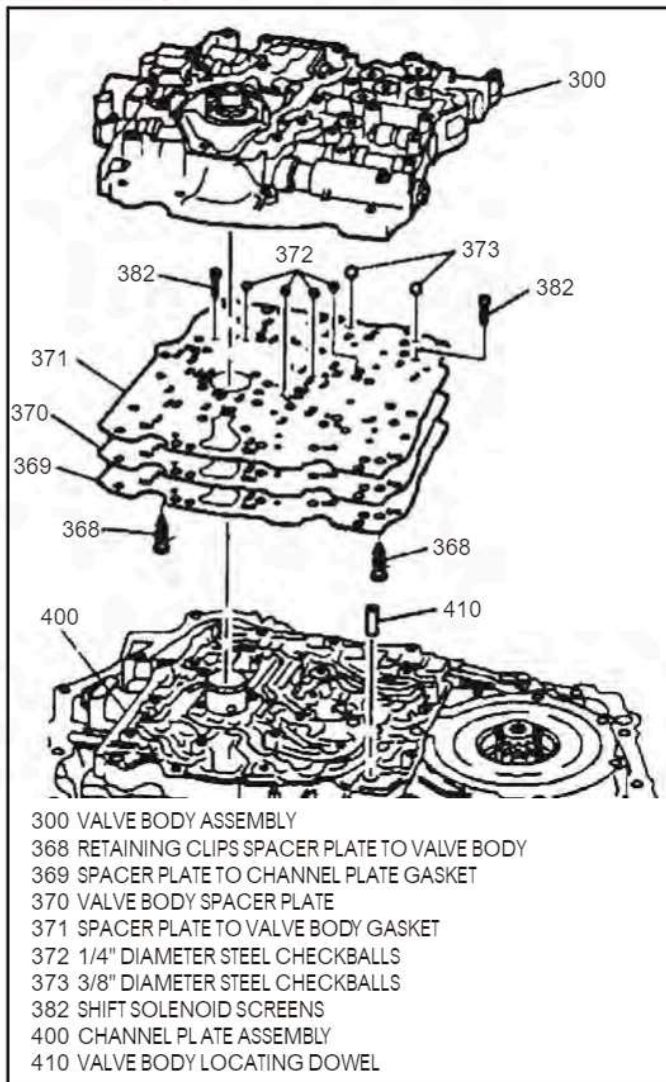

Figure 51
13. Remove the valve body from the transaxle, as shown in Figure 51. The spacer plate and the spacer plate gaskets will come with the valve body, as they are retained by the plastic clips (368) shown in Figure 51.
15. Remove the four 1/4" and the two 3/8" balls from the valve body (See Figure 51).
16. Remove the hollow valve body locating dowel (410) from channel plate (See Figure 51).